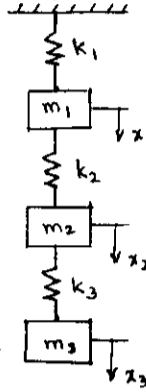

Fig.Q.7(a)
- 7 a. Find the first natural frequency and draw the mode shape for the system shown in Fig.Q.7(a) by matrix iteration method. Take  $k_1 = k_2 = k_3 = k$  and  $m_1 = m_2 = m_3 = m$ . (10 Marks)